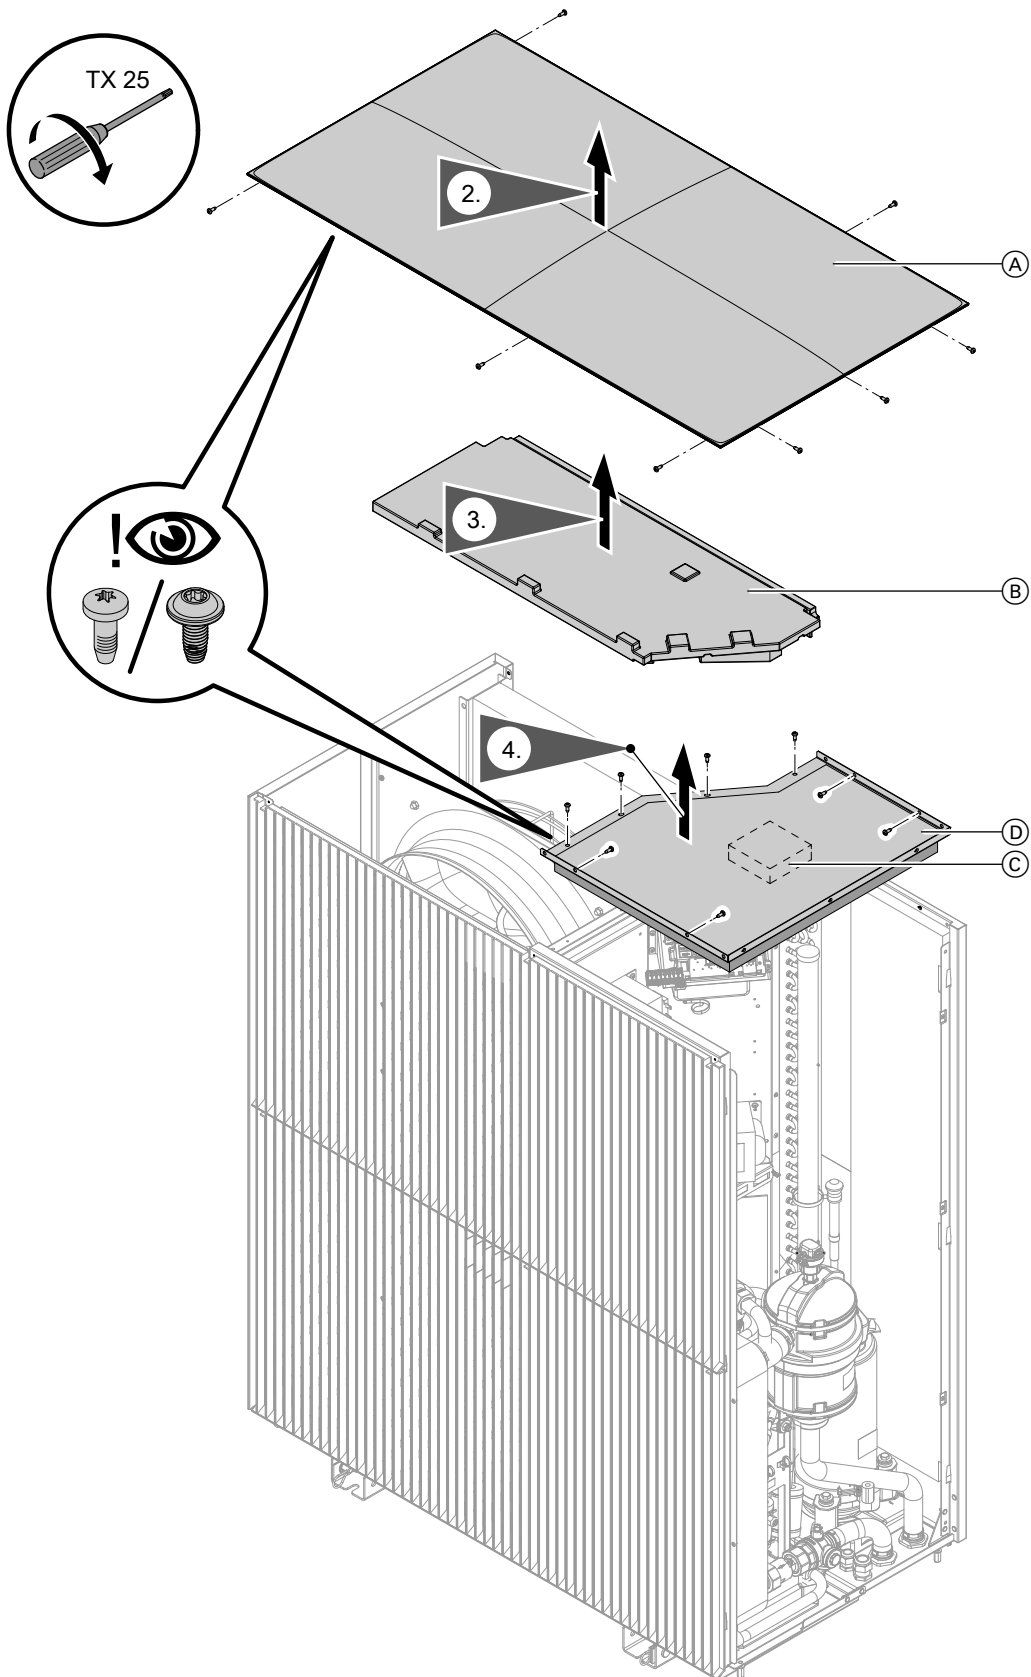

Fig. 106
7. Remove top cover: See Fig. 106.
2. Remove top cover: See Fig. 106.